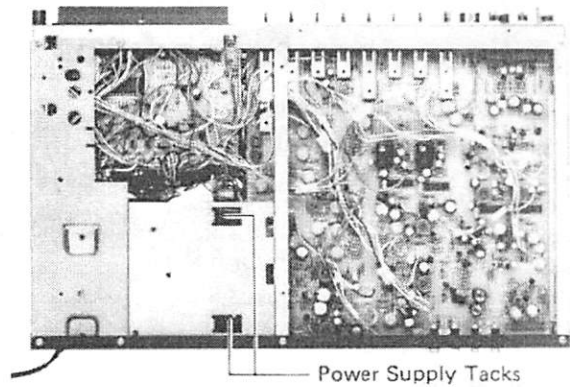

Figure 17
- (1) Remove two tacks as shown in Figure 17.
- (2) Disconnect all wires from the P.C. Board.